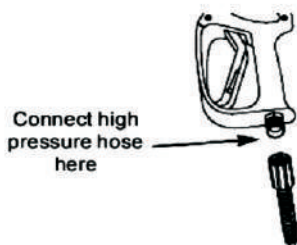

Figure 4. Connect High Pressure Hose to Spray Gun
1). Uncoil high pressure hose and attach one end of hose to base of spray gun (Figure 4). Tighten by hand.